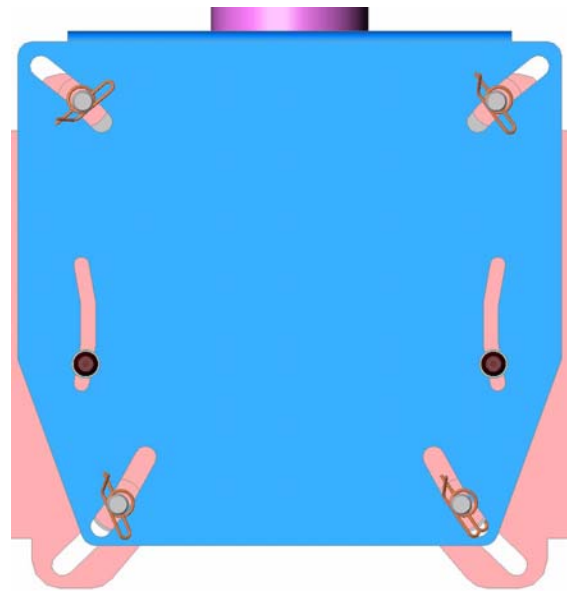

Figure 6. Adjust Pitch
1. For display 1, loosen the screw on each side of the PDC (see Figure 6).